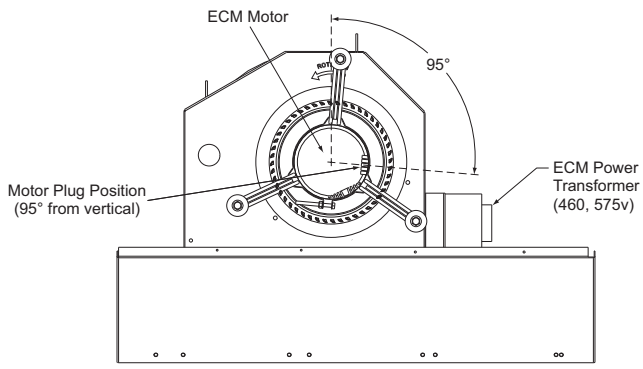

Fig. 5 - 50HCQ Direct-Drive Supply Fan Assembly
For unit sizes 04, 05 and 06, a direct-drive forward-curved centrifugal blower wheel is an available option. The motor has taps to provide the servicer with the selection of one of five motor torque/speed ranges to best match wheel performance with attached duct system. See Fig. 5 (50HCQ Direct-Drive Fan Assembly) and Fig. 6 (ECM Motor Connectors).
8. Ensure the motor terminals are located at a position below the 3 o'clock position. See Fig. 5. Tighten the motor belly-band bolt and torque to 80 in-lbs (9.0 Nm).